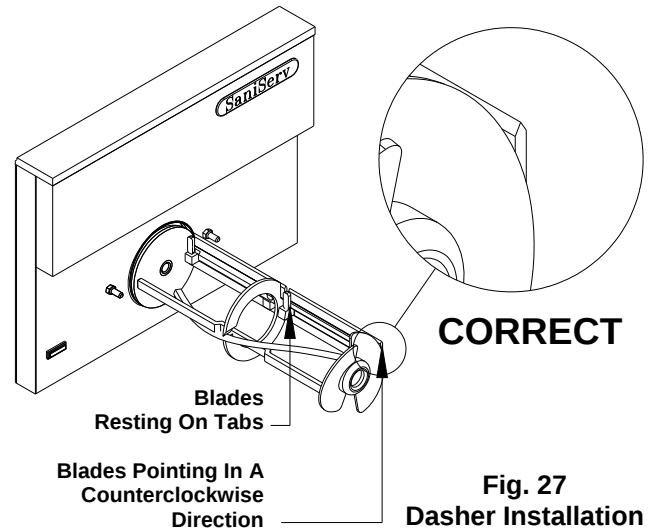
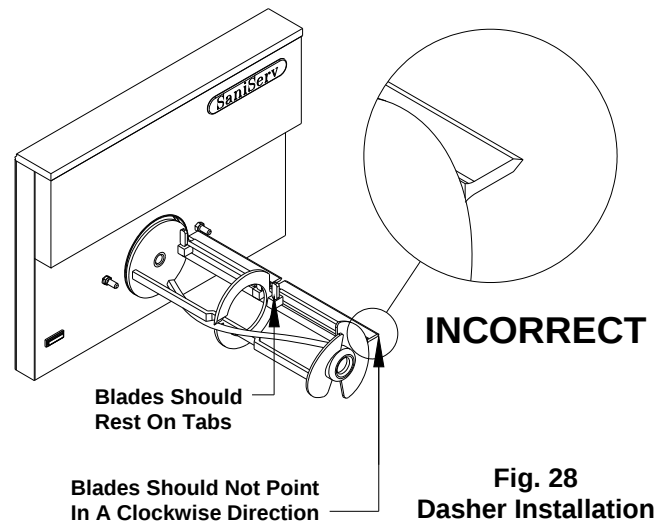

Fig. 27
Fig. 28
- g. Insert the dasher assembly into the freezing cylinder as far as possible (Fig. 27) being careful not to damage the scraper blades. Damage will occur to the scraper blades and the dispenser will not operate properly if the scraper blades are installed facing in a clockwise direction (Fig. 28).